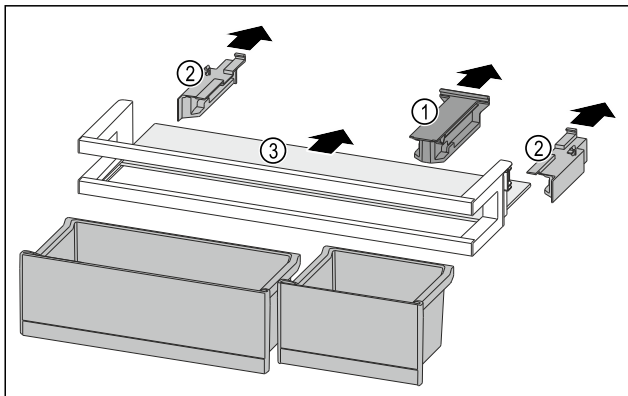

Fig. 202
- ▶ Pull off the holding part Fig. 202 (1).
- ▶ Pull off the side parts Fig. 202 (2).
- ▶ Remove the shelf Fig. 202 (3).